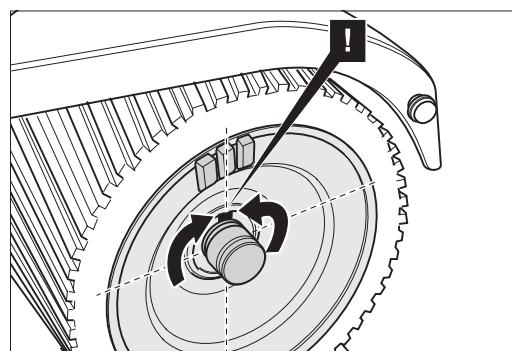

Fig. 40 Turn the drum in such a way that the groove is pointing upwards, to ensure that the fitting key is not lost.
- 5 Turn the drum in such a way that the fitting key is pointing upwards to ensure that the fitting key is not lost (Fig. 40). Now pull the roller out sideways out of the housing.